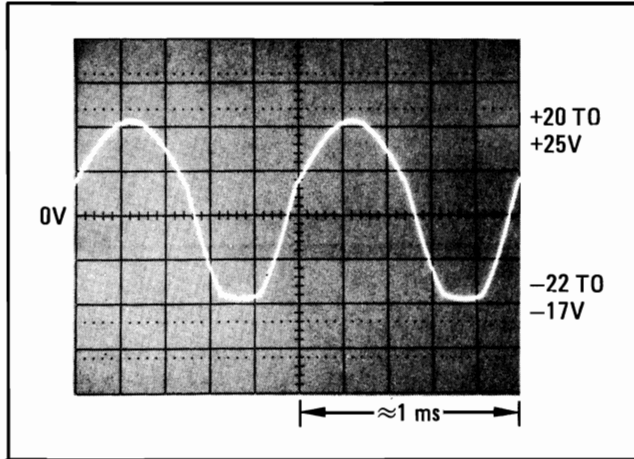

Figure 8-52. Over-Voltage Protection Check Waveform B
Hint: Pins 3 and 4 of U15B should be a TTL high. Pin 14 of U16B should be between 0.6 and 0.8 Vdc. The collector should be between 0 and 0.2 Vdc. If the waveform looks like Figure 8-52, K3 is not closing properly.
6. On the Audio Analyzer, key in 2.4 SPCL to set the input attenuation to 0 dB (in the dc mode). Press S (Shift) DC LEVEL. The waveform on the oscilloscope should appear as shown in Figure 8-52.